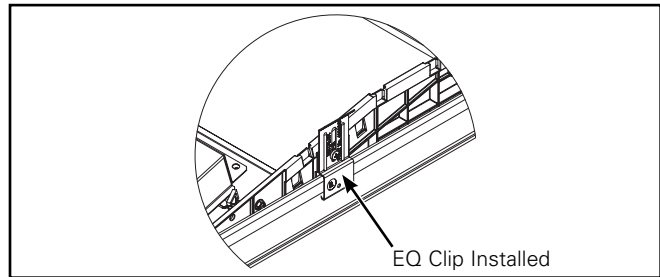

Figure 3.
4. When required, attach EQ Clips to luminaire end plate with supplied screws to secure luminaire to T-grid system (Figure 3.). Take care to not over-torque and strip screws.